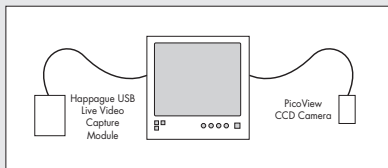

Figure 4.13 Video out from CCD camera to video in connection on monitor. Video out from monitor goes to Live Video Capture module.
2. Use a BNC-RCA adapter to connect the BNC cable to the Hauppauge USB Live Video Capture module. USB Live can be directly connected to your computer's USB port. Refer to Figure 4.13 for cabling diagram.